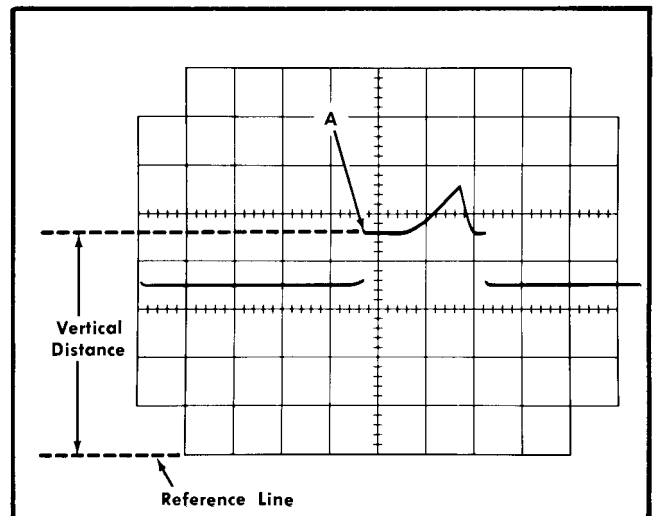

Fig. 2-15. Measuring Instantaneous DC voltage with respect to a reference.
10. Measure the distance in cm between the reference line and the point on the waveform at which the DC level is to be measured. For example, in Fig. 2-15 the measurement is made between the reference line and point A.
Example. Assume that the vertical distance measured is 4.6 cm (see Fig. 2-15). The waveform is above the reference